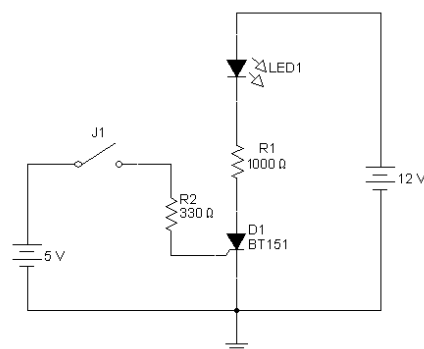

Figure 8.4
1. Construct the circuit shown in Figure 8.4